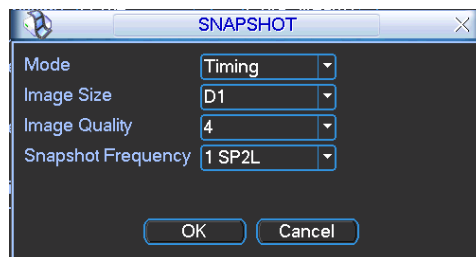

Figure 2-9
- Snapshot: Click snapshot button, you can see an interface is shown as in Figure 2-9.
System supports backup operation during search. You can draw a √ before file name (multiple choices). Then click backup button (Button 14 in Figure 2-9).